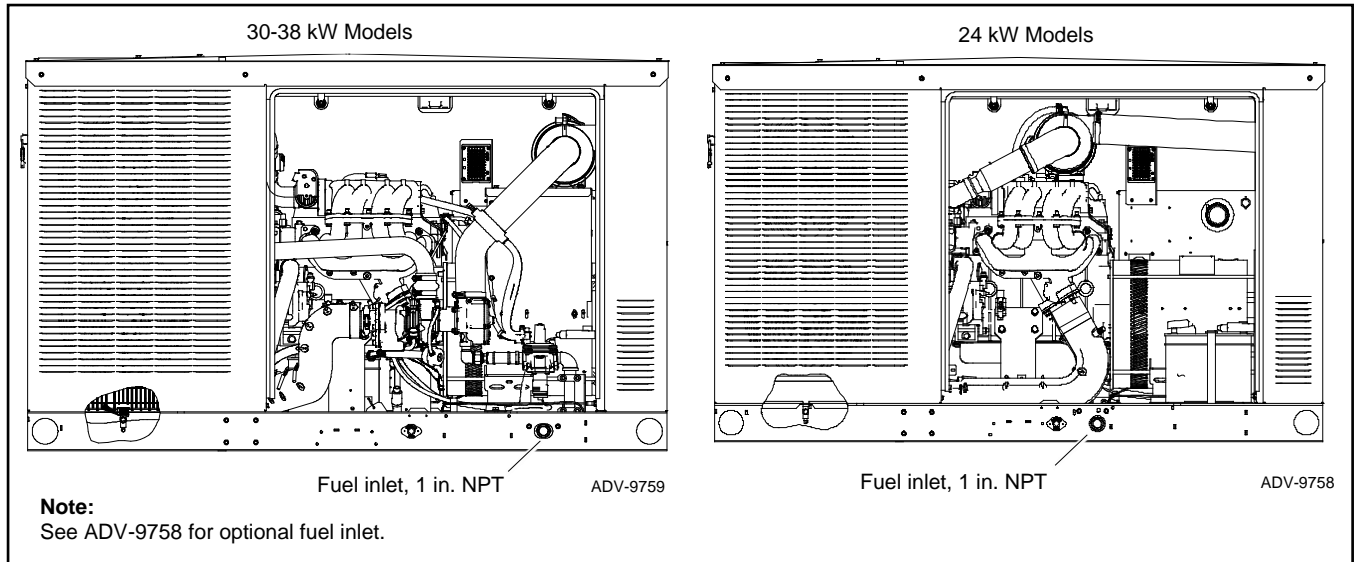

Figure 21 Fuel Supply Connection Location
- b. Use a section of flexible fuel line to connect the fuel supply to the 1 in. NPT fuel inlet connection on the generator set. See Figure 21 or the dimension drawing in the section at the end of the manual, Drawings, for the fuel inlet connection location. Do not bend the flexible fuel line to make up for misalignment of the fuel supply line and the generator set fuel inlet.